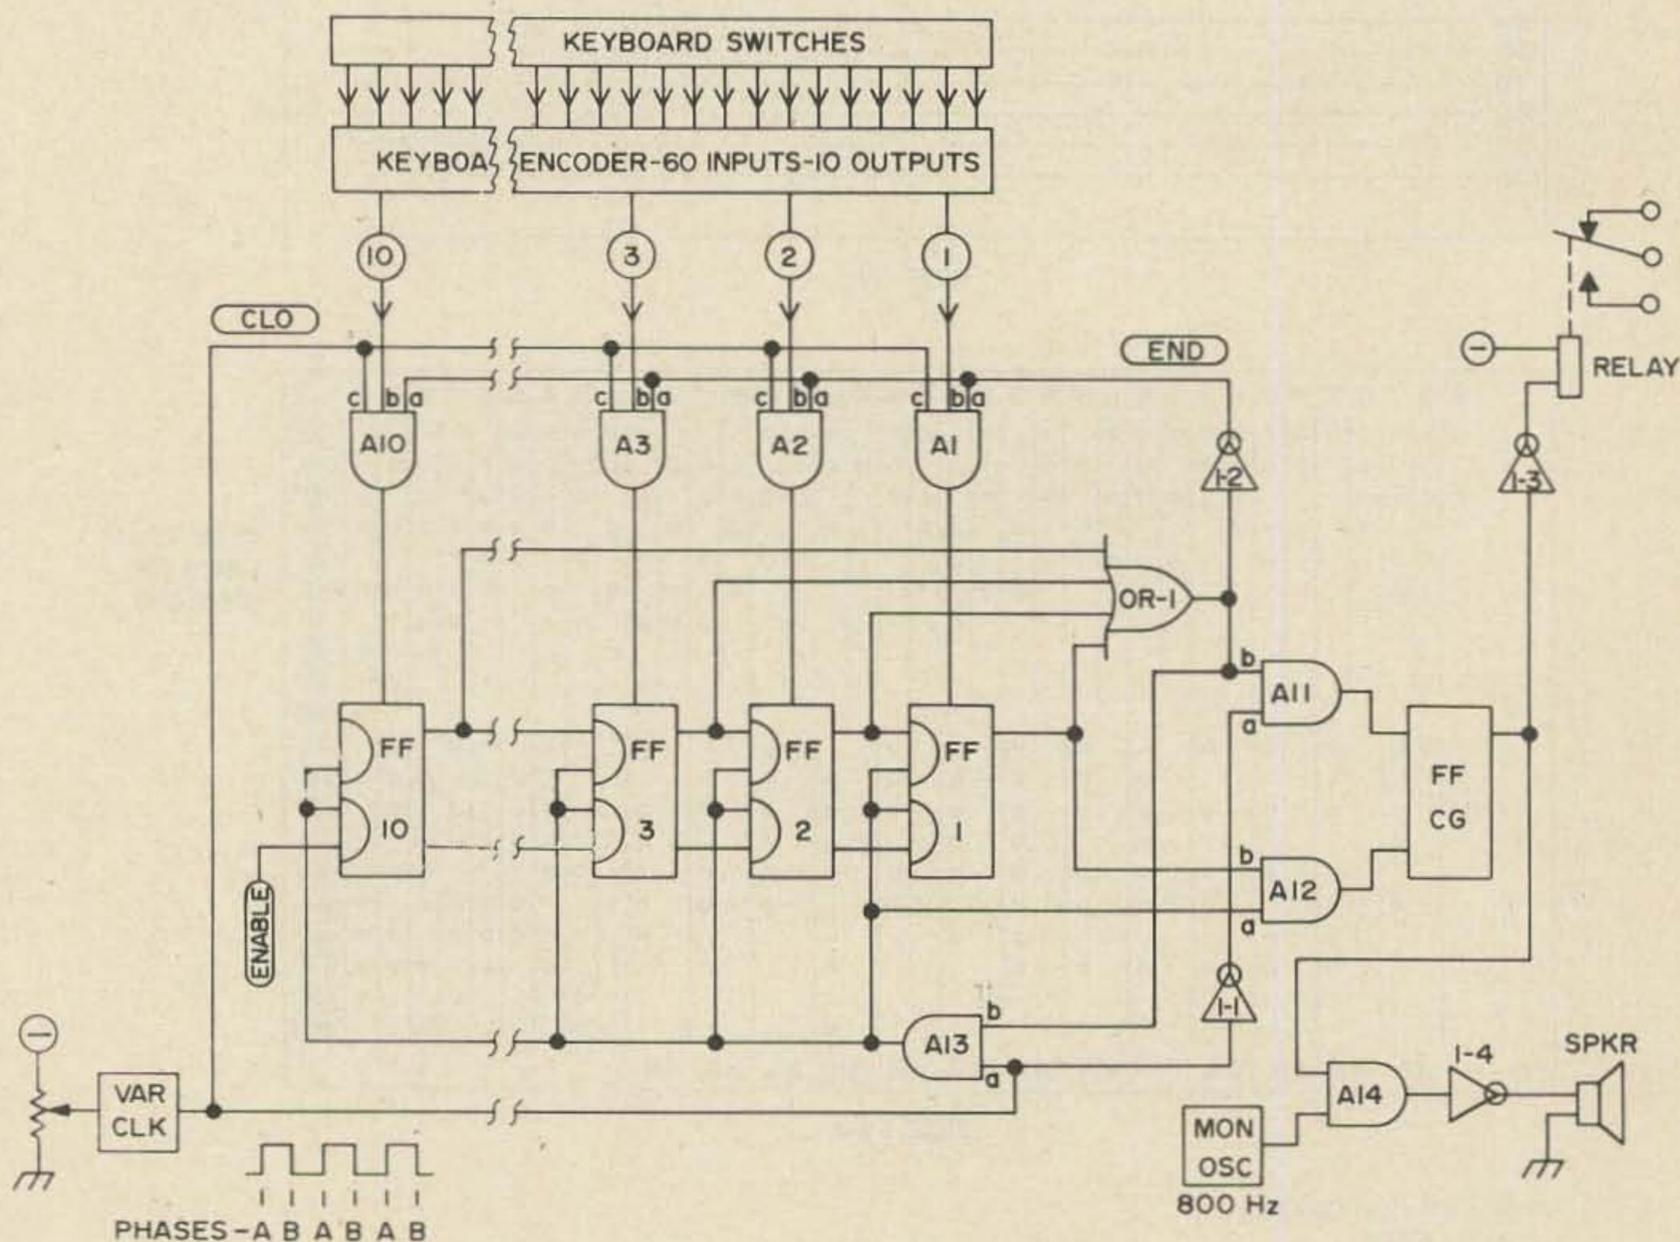
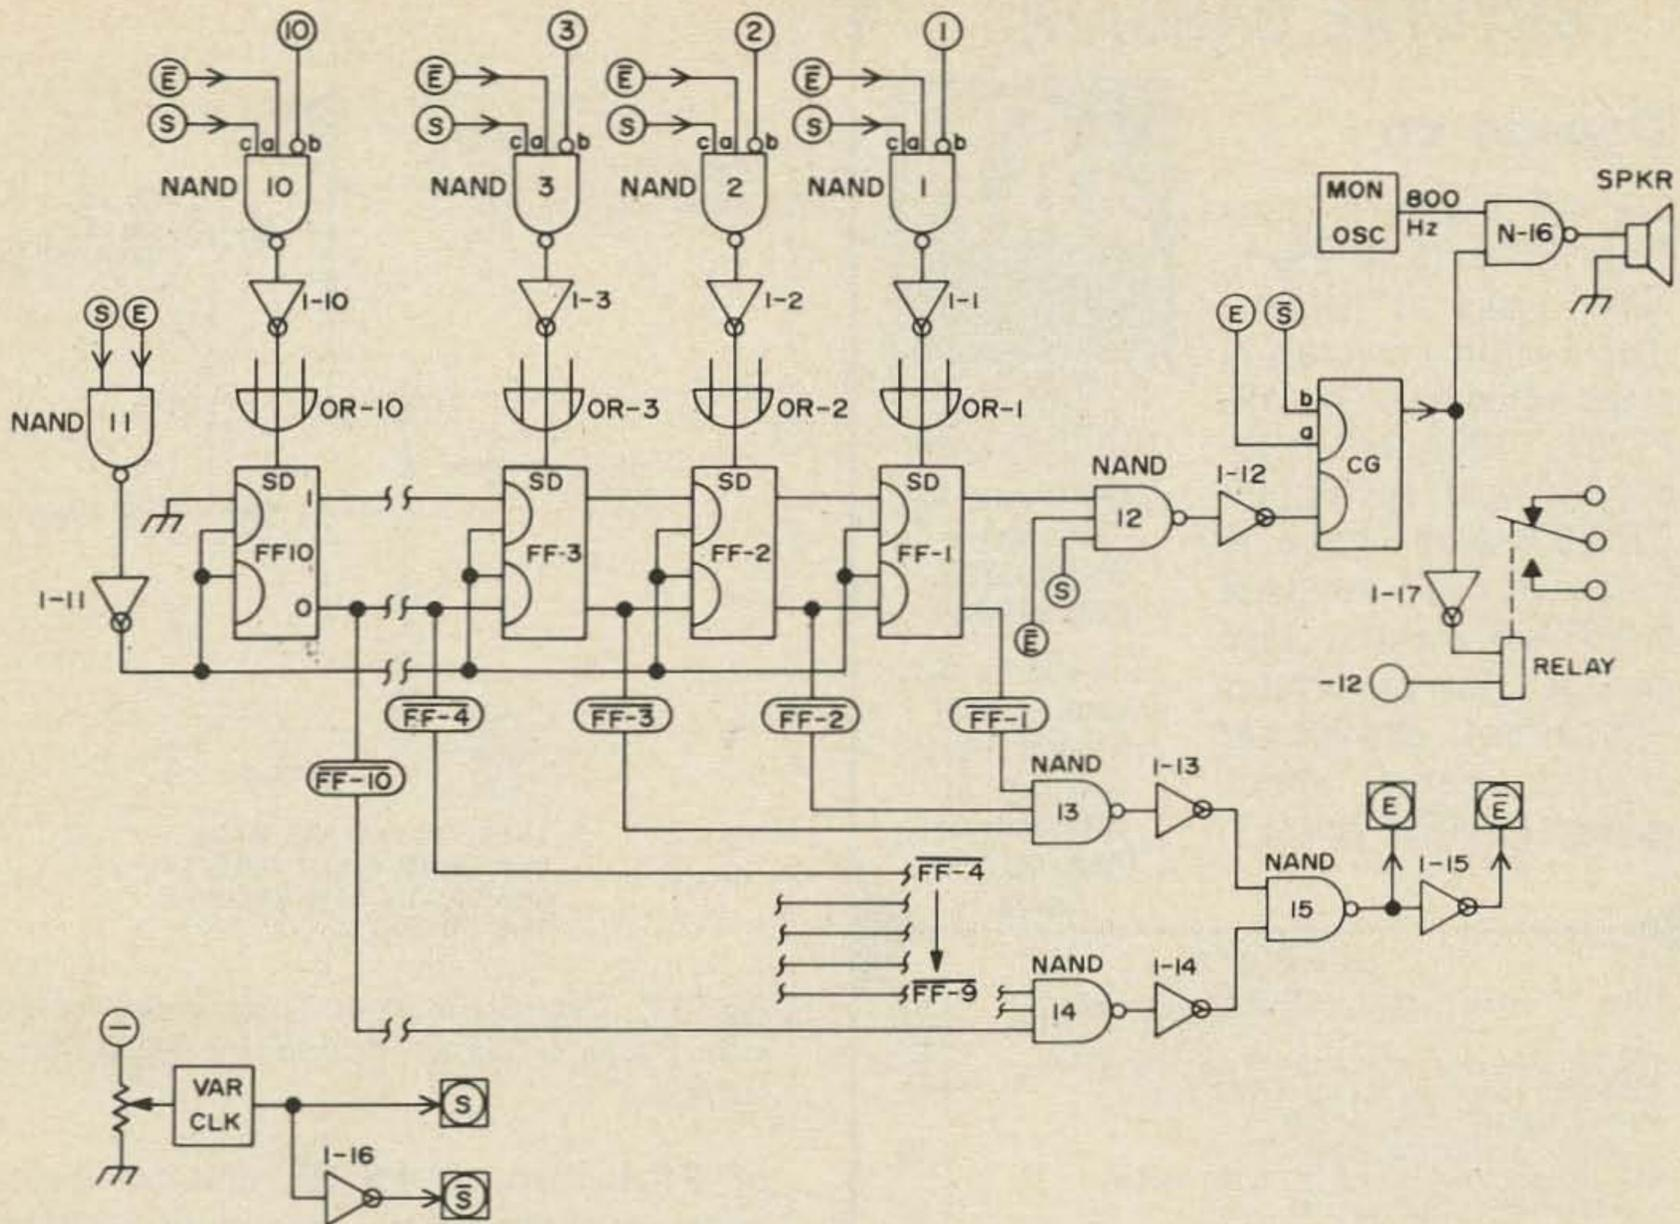

Fig. 10. Logic scheme of keyboard encoder.
Fig. 12. Nand logic equivalents for button-box inputs and shift register.
The layout for the diode matrix board used as an encoder in the button box is shown in Fig. 9. Each of the encoder inputs comes from a separate keyboard switch. Closure of any switch will cause an output on one or more of the ten lines feeding the input gates to the shift register (*and* gates in Fig. 10; *nand* gates in Fig. 12). Setting a stage of the shift register tells the code generator (CG) when to turn off.
blocks used in this keyboard, or for that matter in any other digital device, let's see what sequence of events must occur in generating CW characters. Examine the simplified logic diagram shown in Fig. 10, and follow the sequence of events on the timing diagram, Fig. 11, for the generation of the letter A in Morse code. When the button of the keyboard is pressed corresponding to the letter A, the encoder output will cause a 1 level to be seen at the "b" inputs to *and* gates A-1 and A-3. For these inputs to appear at the output of the *and* gates, two other conditions (a and c) must be met. Input "a" will be at the 1 level only when all of the flip-flops which comprise the shift-register have been reset to the 0 state. This causes a 0 output from OR-1, which is inverted in I-2, and places a 1 level on the "a" input to *and* gates A-1 through A-10. With the "b" and "a" inputs enabled on gates A-1 and A-3, but only the "a" input enabled to all others, the appearance of a clock phase "A" to all the "c" inputs will allow gates A-1 and A-3 to set